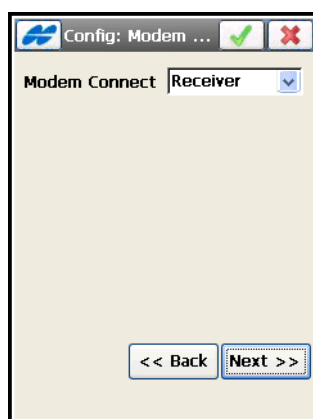

Figure 3-28. Config: Modem Connect
- **Next** – opens the *Config: Modem Connect* screen (Figure 3-28 on page 3-28).
The *Config: Modem Connect* screen (Figure 3-28) displays for the Rover receiver configuration in Network RTK or Network DGPS surveys.